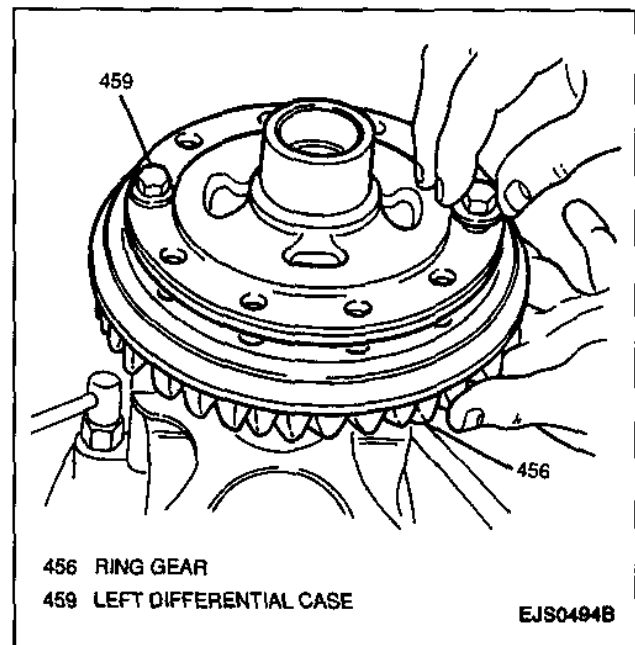

Figure 49—Removing Ring Gear Bolts
18. Ten bolts and ring gear from differential case (Figure 49).